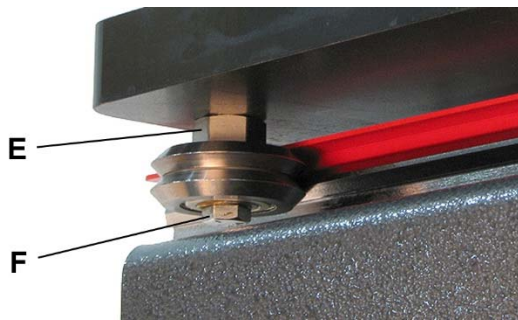

Figure 9-2
1. Place a wrench on hexagonal bushing (E, Figure 9-2) to stabilize the shaft, and loosen bolt (F).